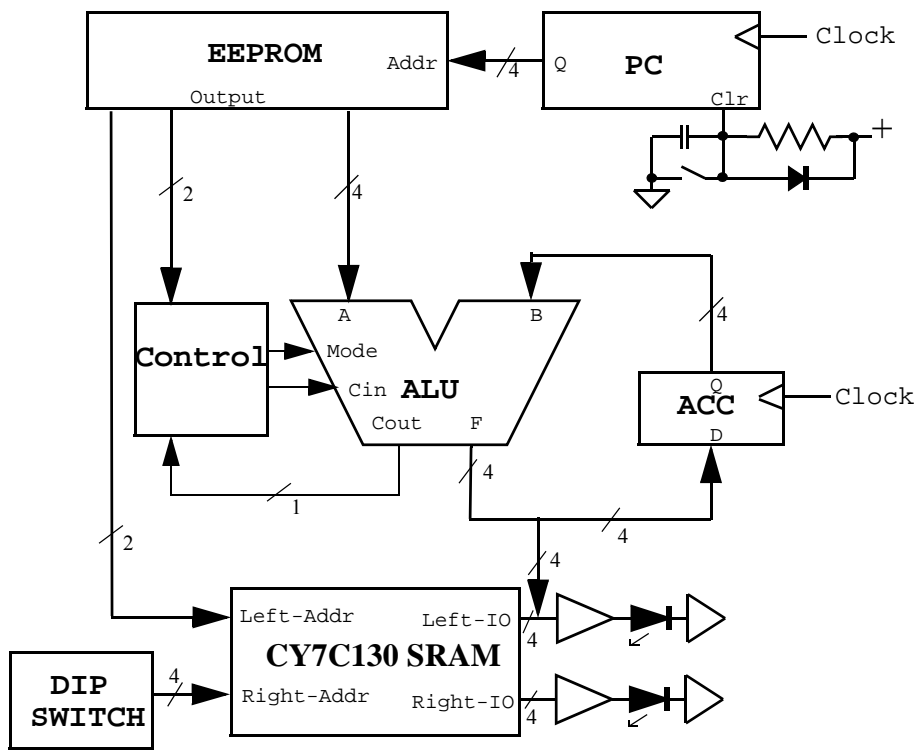

Figure 1: Non-Pipelined Data Path
The first step is to construct the data path shown in Figure 1. The data path consists of an EEPROM that contains the program to be executed. The EEPROM is addressed by the program counter (PC) which should be a 4-bit counter with asynchronous clear. The 8-bit output of the EEPROM has three functions. Four bits will be data provided to the A input of the ALU. Two bits will control the function of the ALU. Note that will only allow you to perform 4 of the possible 16 functions in each mode. The last two bits will select the destination register location in the CY7C130 SRAM. The output of the ALU is connected to both the CY7C130 SRAM and a discrete register. The discrete register serves as an accumulator and will always contain the result of the last operation. The accumulator also provides the data to the B input of the ALU. As a result all operations are accumulator-based operations because the accumulator is always one of the two operands of the operation. The outputs of the CY7C130 SRAM will be connected to buffered LEDs so that you can see what is in each of the register locations.